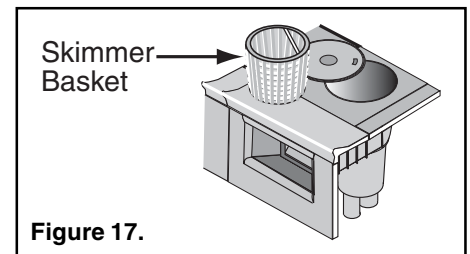

Figure 17.
4. Remove the skimmer basket from the skimmer, (see Figure 17).